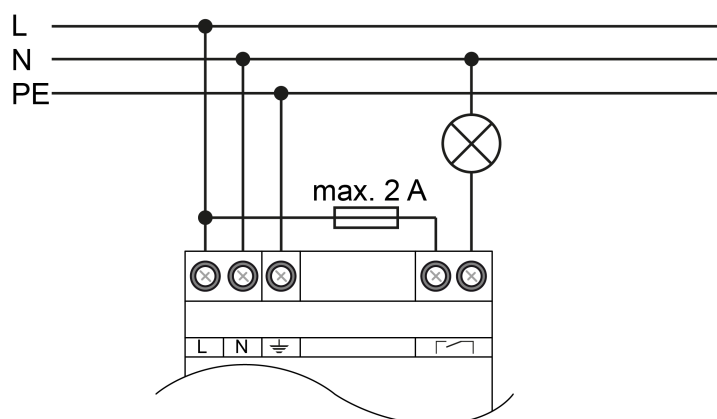

Figure 3: Connection example for optical signalling device
- Connect the signalling device according to the connection example (see figure 3).